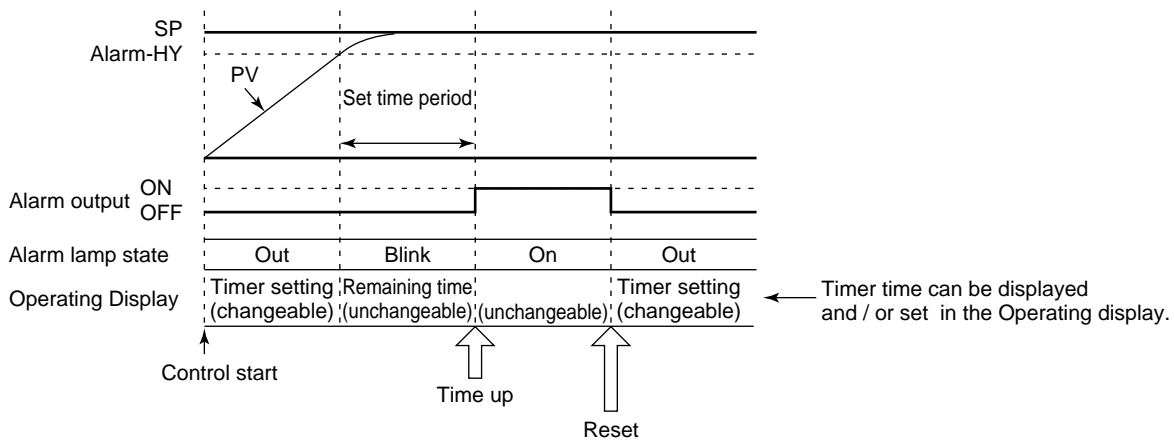

Fig. 3-3-3 Upward Detection
(1) The ON/OFF operation in upward detection is shown below (in Fig. 3-3-3).